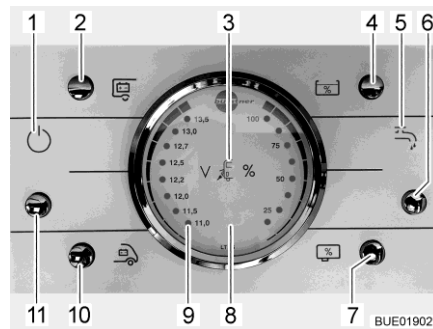

Fig. 191 Panel LT 96
The button (Fig. 191,11) switches the panel and the 12 V power supply to the living area on and off.
**Switching on:** ■ Press the button (Fig. 191,11): The 12 V living area power supply is switched on. The indicator lamp (Fig. 191,1) lights up.
**Switching off:** ■ Press the button (Fig. 191,11): The 12 V living area power supply is switched off. The indicator lamp (Fig. 191,1) goes out.
With the V/tank gauge (Fig. 191,8), note the left scale. The gauge automatically lights up as soon as a button is pressed.
- Press the button (Fig. 191,10): The battery voltage of the starter battery is displayed.
- Press the button (Fig. 191,2): The battery voltage of the living area battery is displayed.
With the V/tank gauge (Fig. 191,8), note the right scale. The gauge automatically lights up as soon as a button is pressed.
- Press the button (Fig. 191,4): The volume of water is displayed.
- Press the button (Fig. 191,7): The volume of waste water is displayed.
- Press the button (Fig. 191,6): The water supply is ON. The water pump indicator lamp (Fig. 191,5) lights up.
- Press the button (Fig. 191,6): The water supply is OFF. The water pump indicator lamp (Fig. 191,5) goes out.
The red "ALARM" warning light (Fig. 191,9) flashes as soon as the voltage of the living area battery falls below 11 V (measured under operation) and there is a risk of a total discharge.
The 12 V indicator lamp (Fig. 191,1) lights up when the 12 V main button (Fig. 191,11) is switched on.
The 230 V indicator lamp (Fig. 191,3) illuminates whenever line voltage is available at the transformer/rectifier input.